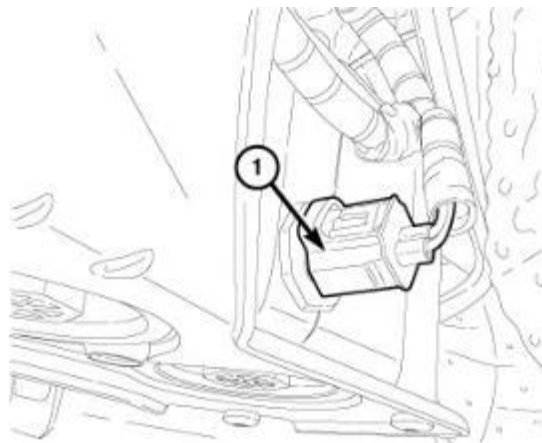

Figure 24 – WIF Sensor Connector
60. Disconnect the Water In Fuel (WIF) sensor wire harness connector (1) (Figure 24).